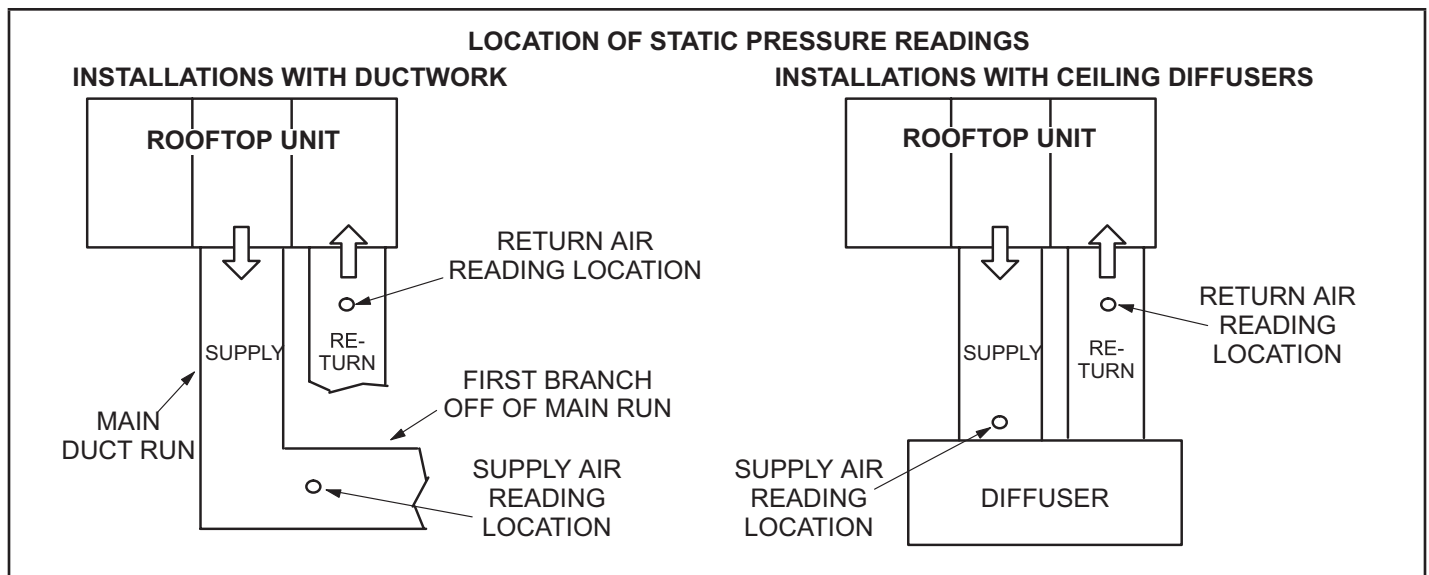

FIGURE 12
- 2 - With all access panels in place, measure static pressure external to unit (from supply to return). Blower performance data is based on static pressure readings taken in locations shown in FIGURE 12.